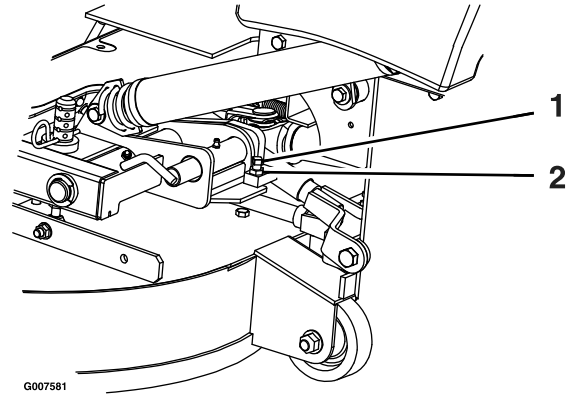

Figure 81
2. Loosen the jam nut and turn the stop screw clockwise until the locking pin is tight and cannot be rotated by hand (Figure 81).